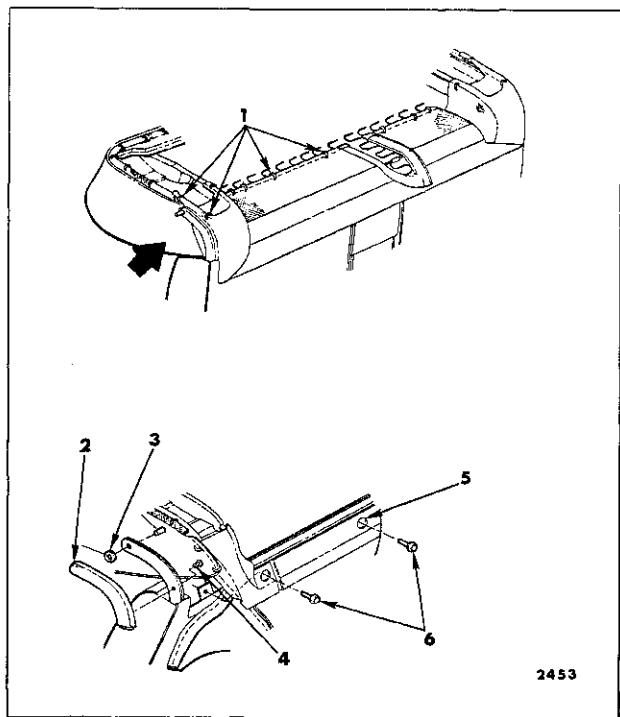

Fig. 15-20—Seat Back Removal (Right or Left) -
2. Remove hog rings securing lower edge of seat cushion trim bottom facing to seat cushion springs and frame (Fig. 15-20).
3. Remove outer hinge arm cover (Fig. 15-20); then, using a flat bladed tool carefully remove retainer securing seat back outer arm to hinge pin (Fig. 15-20).
4. Turn back seat back trim to expose seat back attaching bolt access holes; then, through access holes remove seat back frame to seat cushion frame attaching bolts (Fig. 15-20).
5. Turn seat assembly right side up. Carefully disengage seat back outer arm from hinge pin; then, tilt seat back forward and upward to disengage seat back inner arm from hinge pin (Fig. 15-20) and remove seat back from body.